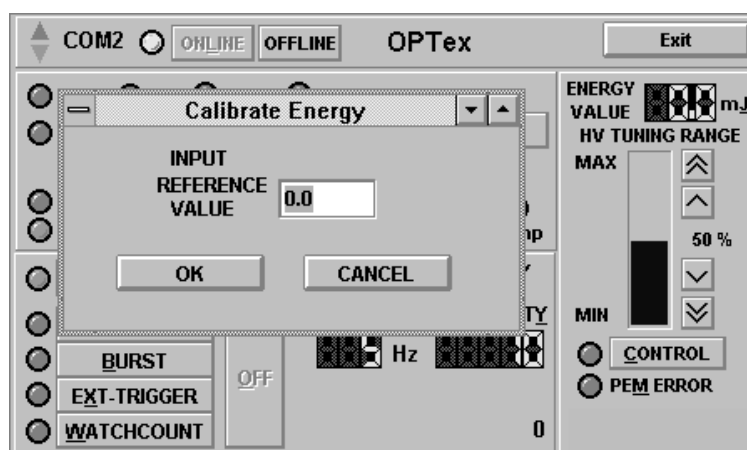

Figure 61: Energy monitor calibration window
9. Enter the measured beam energy through the numerical keys into the new window (see Figure 61) that automatically appears after 150 pulses have been emitted.